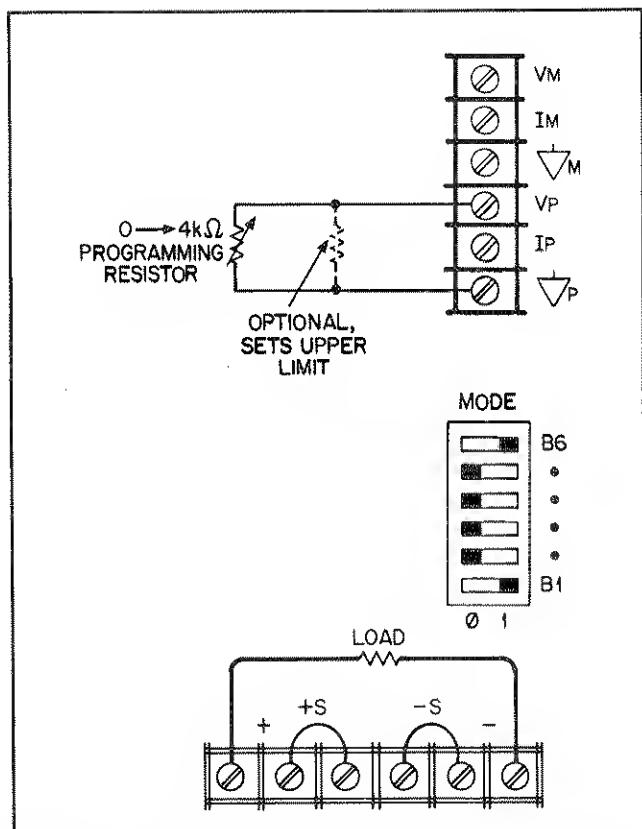

Figure 3-9. Resistance Programming of Output Voltage
**3-202** Although the following setup drawings (Figure 3-9 through 3-13) show the supply strapped for local sensing, analog programming and remote voltage sensing do not interact and may be used simultaneously.
**3-203 Constant Voltage Output, Resistance Control.** The setup shown in Figure 3-9 allows the output voltage to be varied by using an external resistor to program the power supply. A programming resistor variable from 0 to 4000 ohms produces a proportional output voltage from zero to full scale. Note that fixed resistors may be connected in series and/or parallel with the variable programming resistor to set lower and/or upper output voltage limits. The resultant programming resistance is the sum of the series/parallel resistor combination, and must be between 0 and 4000 ohms. For example, a 2000 ohm resistor connected in series with the variable programming resistor will set the lower limit for output voltage at one-half full scale.